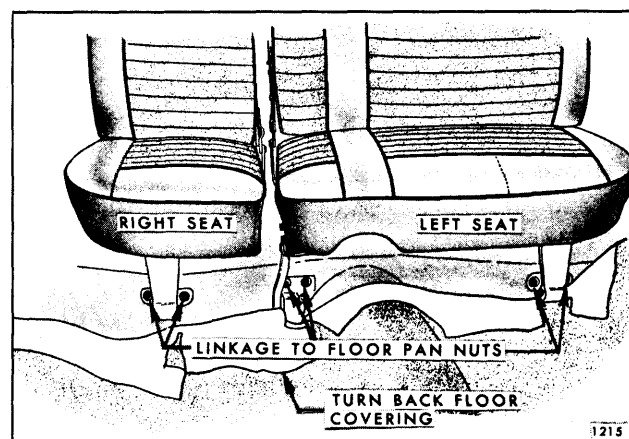

Fig. 15-86—Folding Second Seat Front Linkage (Vista Cruiser and Sport Wagon Styles)
2. Mark location of front linkage support on floor pan to facilitate installation in same position. Support front of seat. Remove bolts securing linkage to seat and nuts securing linkage to floor pan studs (See Fig. 15-86); then, remove front linkage.